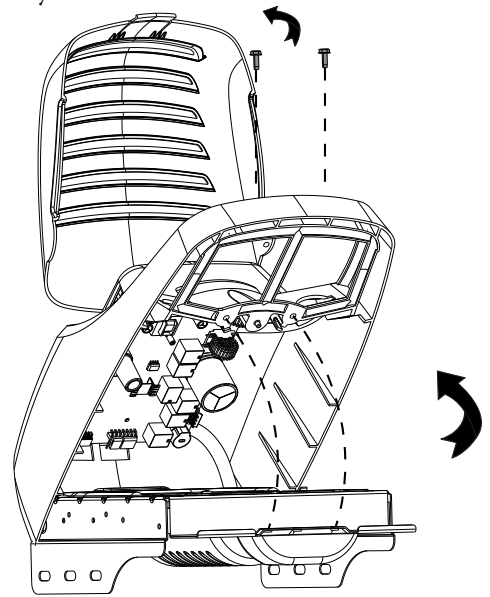

FIG. 4.
9. Remove two 5/16" screws securing powerhead cover to chassis and swing open to expose control board. Fig. 4.